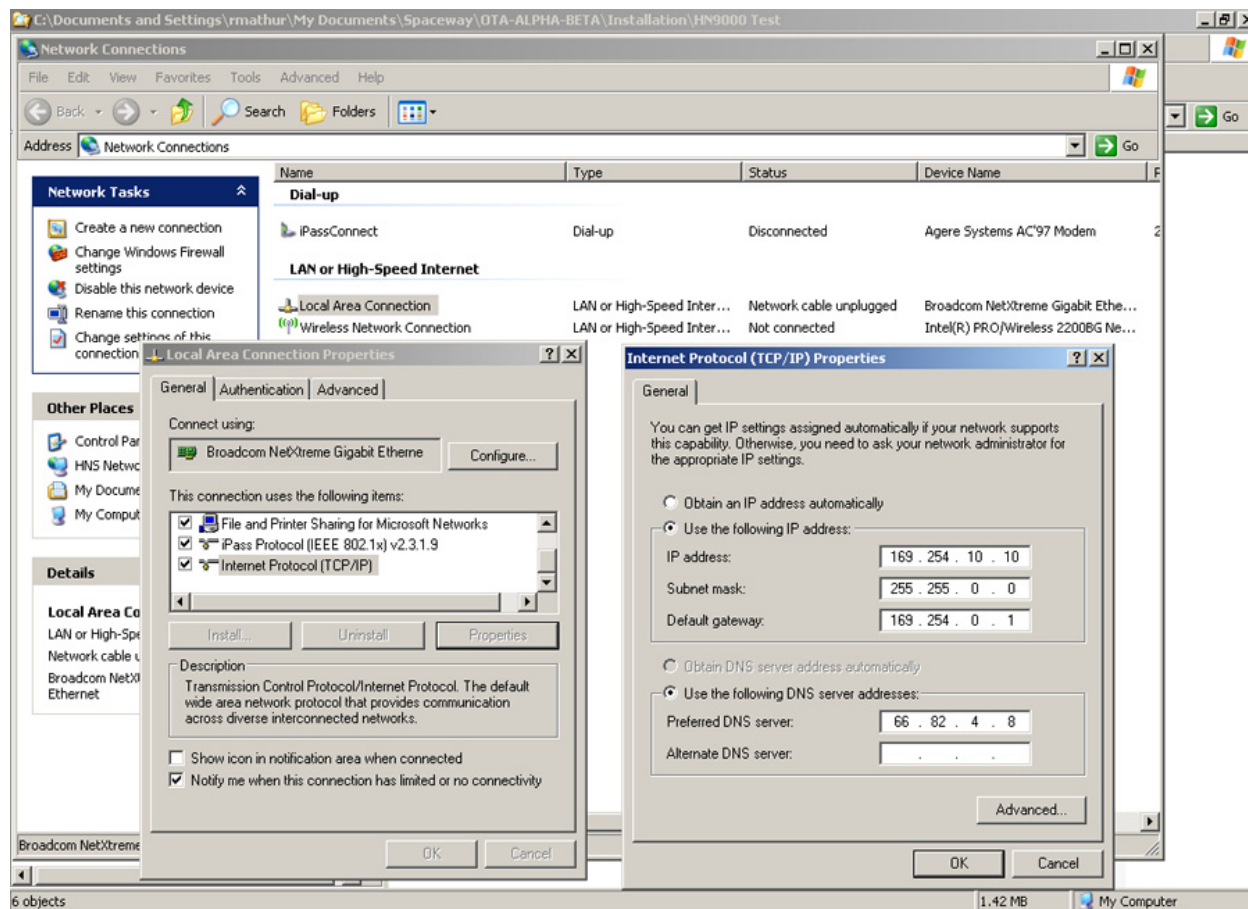

Figure 1. Installer laptop IP address settings for connecting to the HN9X00
- Set Preferred DNS server to 66.82.4.8. See Figure 1 below.